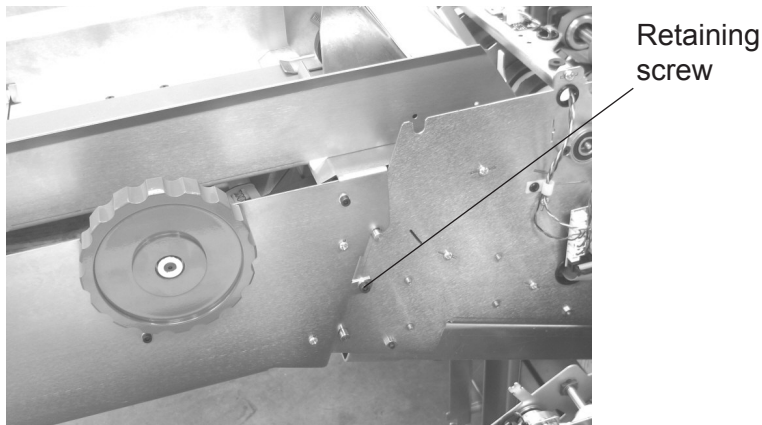

Fig. 15
2. Remove the retaining screws (1 x Skt Cap head) from each side, as shown in Fig. 15 below. Lift the conveyor upwards and rearwards to remove it from the input end of the feeder.